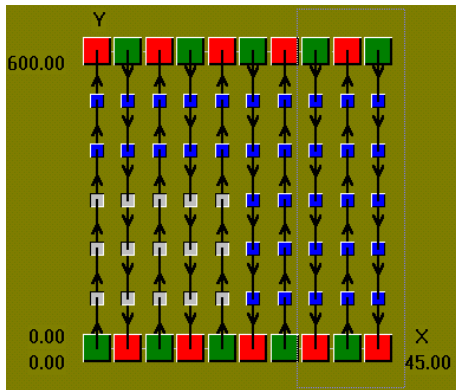
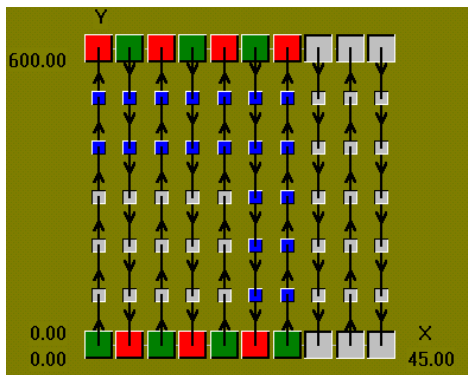

Figure 44
Figure 45
- To select more positions press the control key (CTRL) and repeat previous operation (Figure 44 and Figure 45).